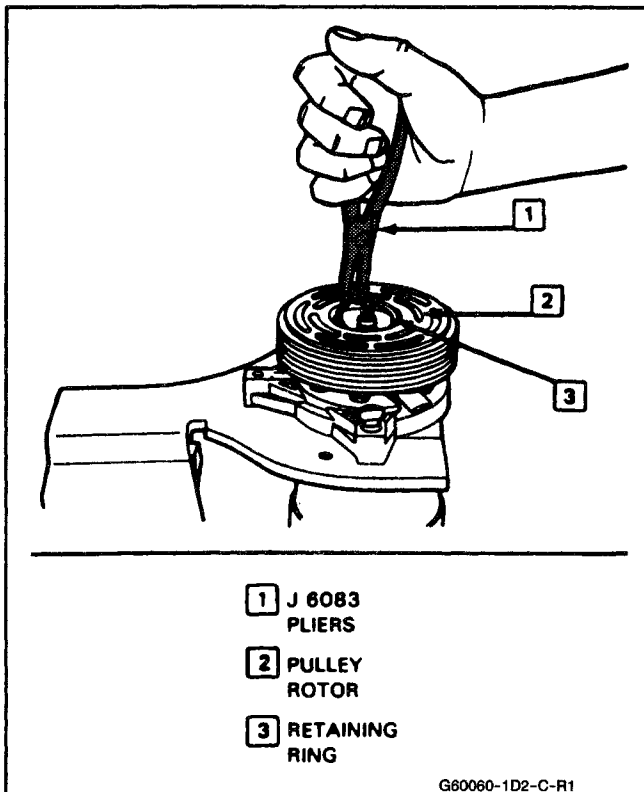

Fig. 6 Installing-Removing Pulley Rotor & Bearing Assembly Retaining Ring
2. Remove rotor and bearing assembly retaining ring, using snap ring pliers J 6083 (Fig. 6).
9. Install rotor and bearing assembly retainer ring, using snap ring pliers J 6083 (Fig. 6).